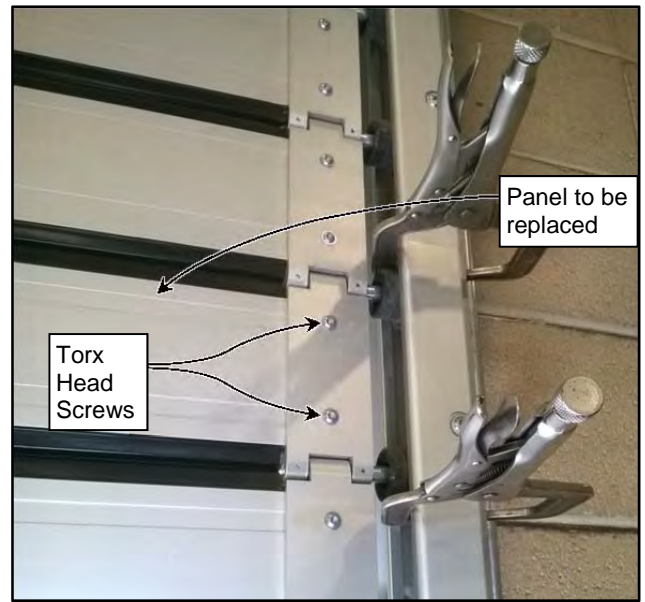

Figure 52
3. Position clamps along both edges of the door above and below the panel to be removed to prevent unexpected door movement. (See Figure 52)